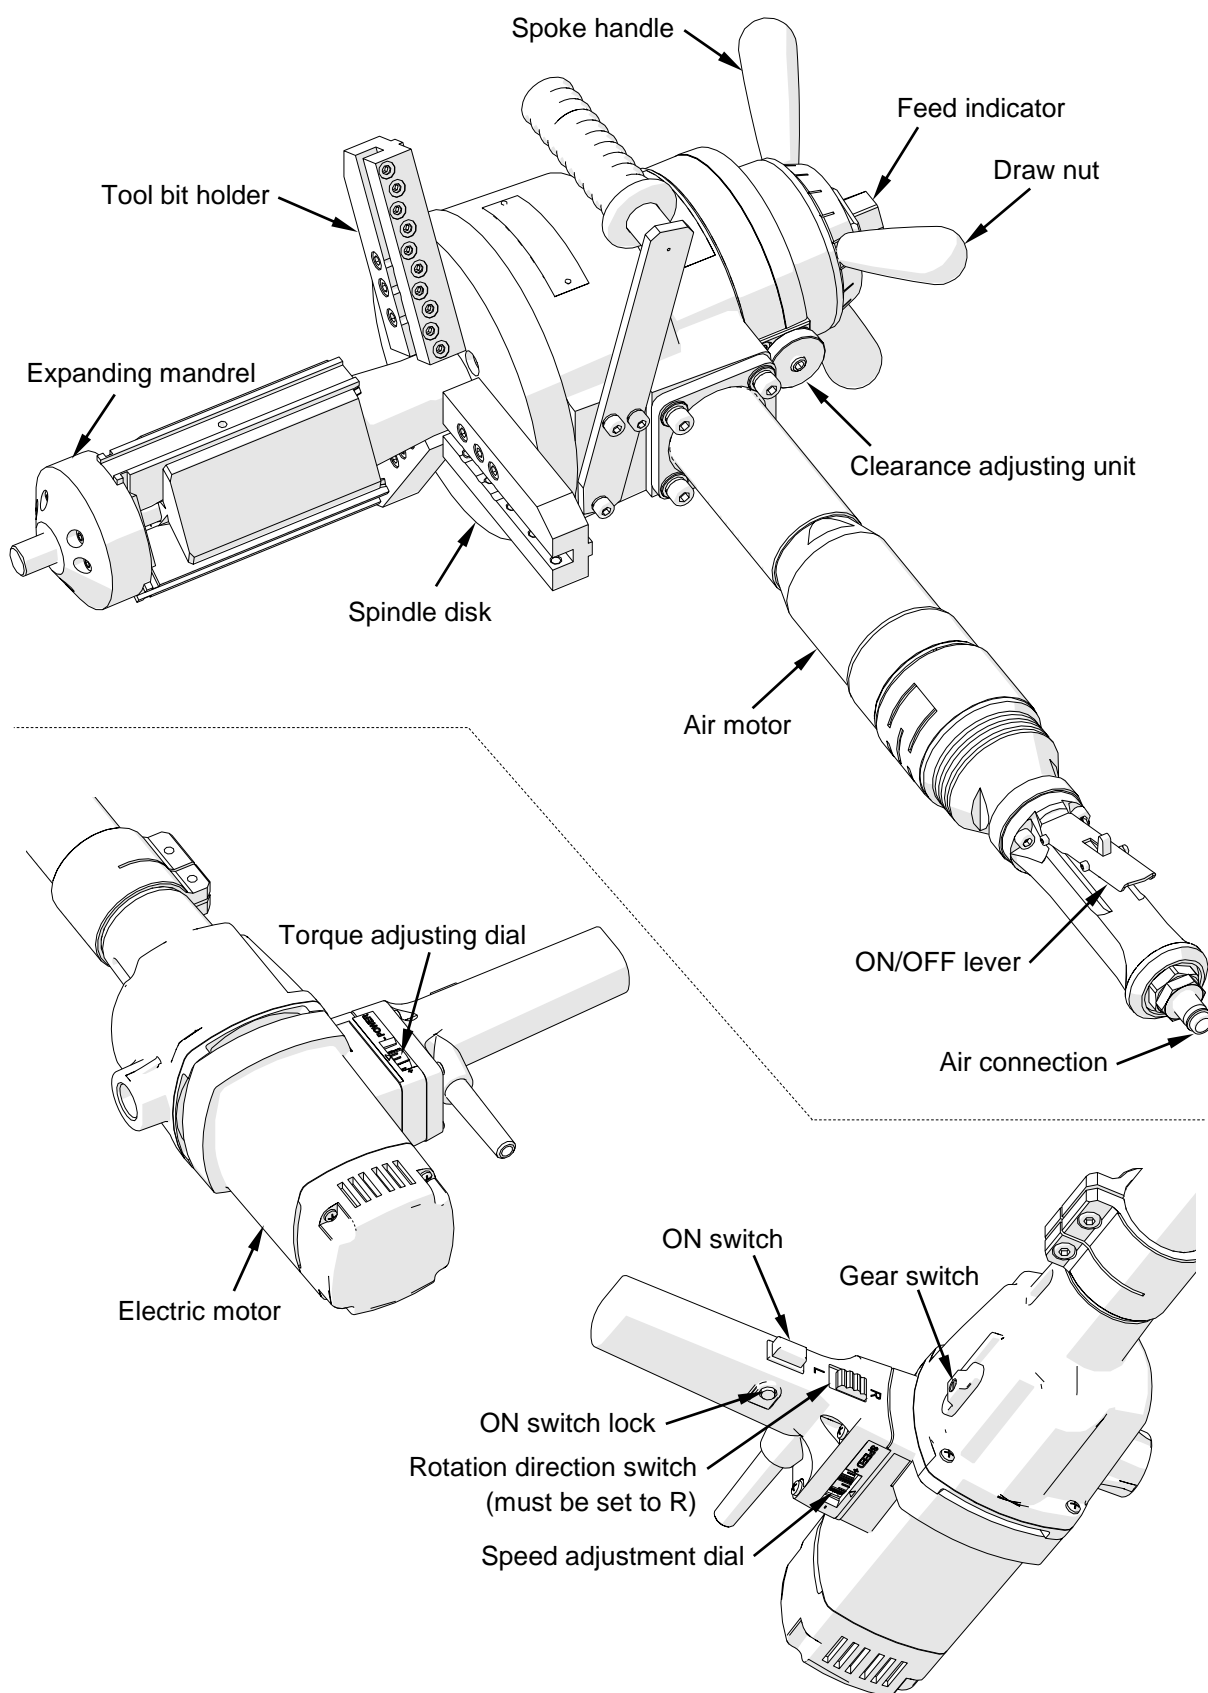

Fig. 1. View of the PRO 10 PB and of the PRO 10 PBE electric motor
To install the electric motor, insert the MT3 arbor into the motor (4, Fig. 4b), and hit the arbor to position it tightly using a mallet. Put the clamping ring (5) onto the motor, then install entirety into the machine (6) by placing the arbor in the socket 2, and tighten the clamping ring using the 6 mm hex wrench (7). Finally, set the rotation direction switch in position R as in Fig. 1.